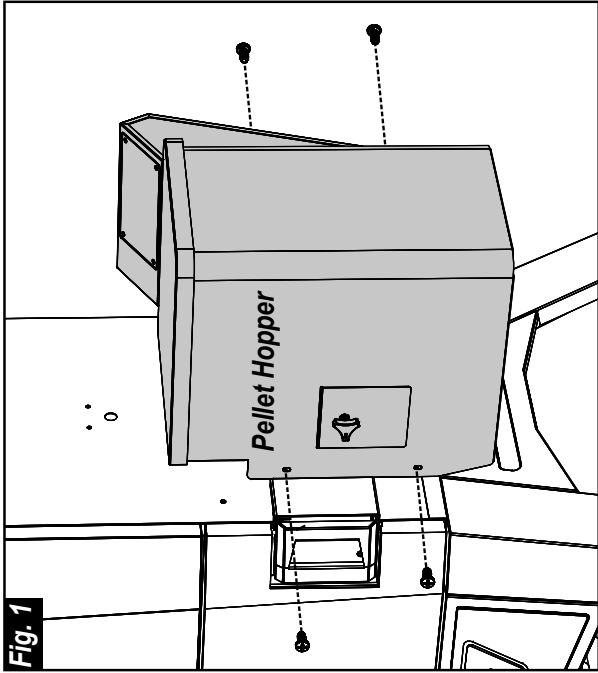

Fig. 1
6. Remove four screws holding pellet hopper to auger housing and remove hopper. Reference **Fig. 1** on page 41.
4. Remove four screws holding pellet hopper to auger housing (**Fig. 1**).